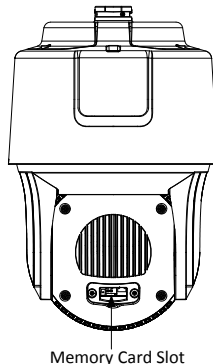

Figure 2-40 Memory Card Slot
2. Remove the cover on the back of speed dome as shown in Figure 2-40. Insert the memory card to the memory card slot and install the cover back.